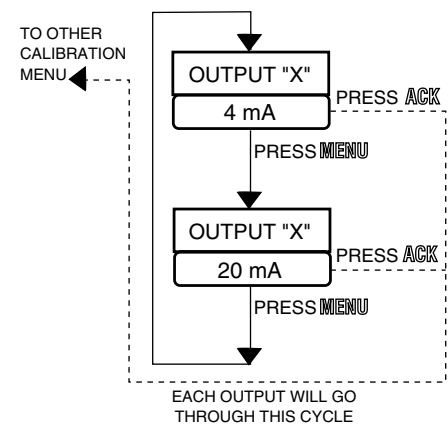

Figure A4.9
8. Press **MENU** to scroll to the output to be calibrated (see *Figure A4.9*). The 3rd display should read 4mA.